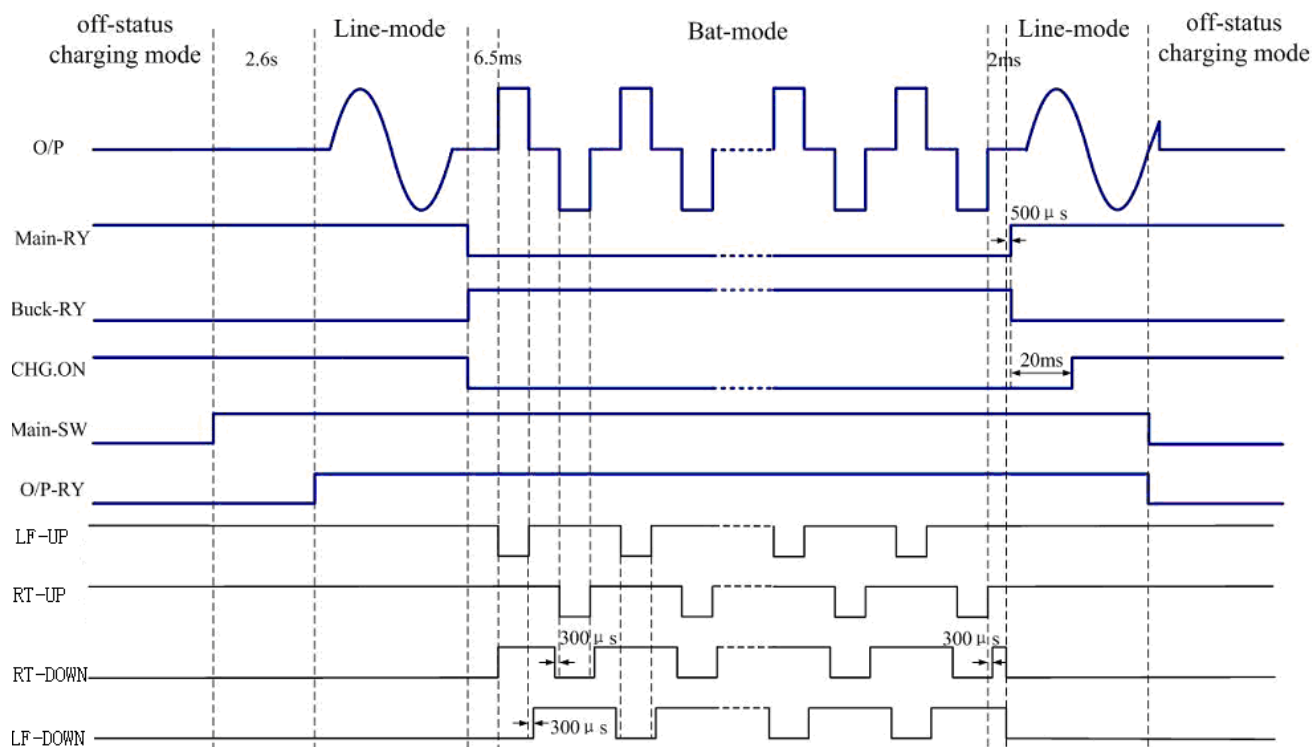

Figure W-3 Control logic (1)
Refer to the Inverter circuit diagram, the LF-UP, LF-DOWN, RT-DOWN and RT-UP signals are generated by CPU. Figure W-3 illustrates the waveforms of LF-UP, LF-DOWN, RT-DOWN and RT-UP while the system is at no load condition. The duty cycles of LF-UP, LF-DOWN, RT-DOWN and RT-UP signals are controlled by returned signal of output voltage (Please refer to Charger circuit) to get a stable output.
The gates of MOSFETs are driven by transistors Q18, Q26, Q19, Q24, Q21, Q28, Q22, Q27 which are controlled by the LF-UP, LF-DOWN.VGS, RT-DOWN.VGS and RT-UP. Those signals are from CPU pin28, 27, 29 and 30 directly or indirectly. Figure W-3 (1) shows the collector waveforms for CPU pin28, 27, 29 and 30 while the system is at no load condition at battery mode.
According to the diagram shown on "Figure W-3 Control logic (1)", while the driving signal LF-DOWN.VGS and RT-DOWN.VGS both get HI simultaneously in battery mode, the step output waveform get approximately zero, which is named CLAMP. In full-bridge circuit, unlike push-pull circuitry having isolated CLAMP circuitry and driven signal, the CLAMP signals are included in inverter drive logic.